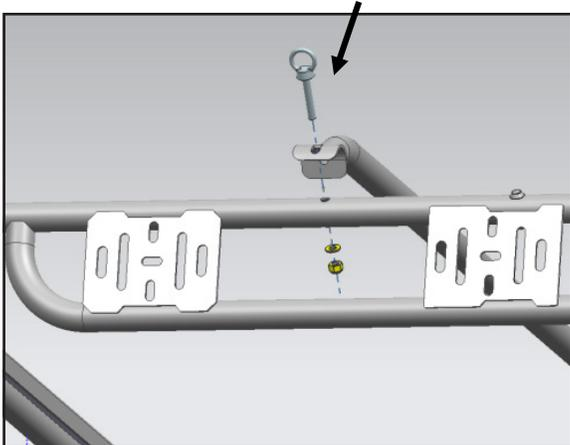

FIGURE 19
17. Select the (3) remaining Crossbars. Locate the mounting locations on the Side Rails for the crossbars. **NOTE:** Rack features multiple mounting locations, select the combination as desired. Attach each Crossbar to the top of the Side Rails with (2) 8mm x 50mm Button Head Bolts, (4) 8mm x 16mm Small Flat Washers and (2) 8mm Nylon Lock Nuts, (**FIGURE 19**). Use the included Plugs to seal off unused mounting holes.